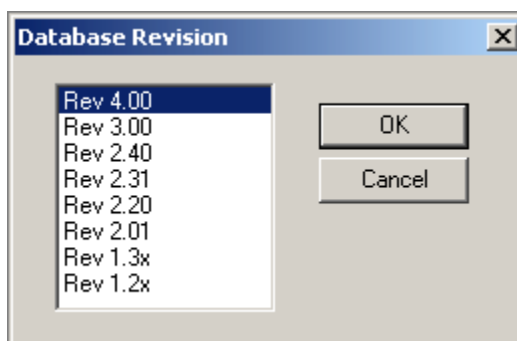

Figure 7-2 Database Revision dialog
1. Select **File > New** or **<Ctrl+N>**. The Database Revision dialog opens. See Figure 7-2.